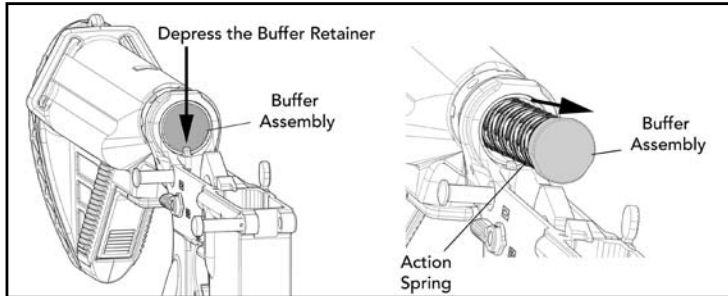

Fig. 48 – Removing Buffer Assembly
- a. Depress the buffer detent with the tip of the piston rod and remove the buffer and action spring from the receiver extension (buffer tube) (Fig. 48).